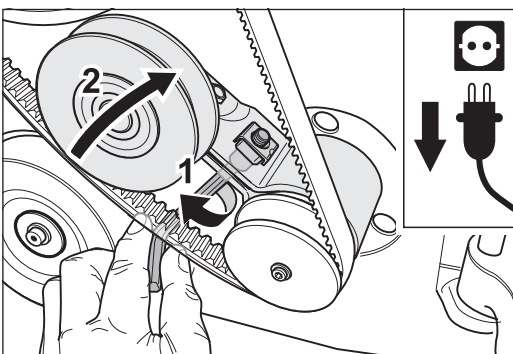

Fig. 104 Open the clamping screw of the belt tensioner (1) and release the tension of the suction V-belt (2).
- 6 Open the clamping screw of the belt tensioner for the suction V-belt (Fig. 104, 1)
- 7 Turn the belt tensioner clockwise to release the tension of the suction V-belt (Fig. 104, 2).
- 1 Open the clamping screw of the belt tensioner for the suction V-belt (Fig. 104, 1).
- 2 Turn the belt tensioner clockwise to release the tension of the suction V-belt (Fig. 104, 2).